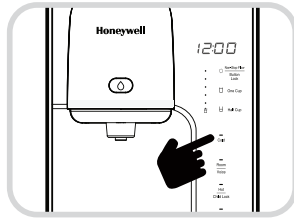

Fig. 1
1. The Cold Water function is set to be ON as default on the product. If the Cold Water Function is not ON but OFF, press the Cold button for four (4) seconds to turn ON the Cold Water Function. (Fig. 1).
2. If you do not want to use the cold water, turn OFF the Cold Water function by pressing the Cold button for four (4) seconds while the Cold Water function is ON.
3. Cold water will be dispensed in approximately one (1) hour after the Cold Water function has been turned ON.